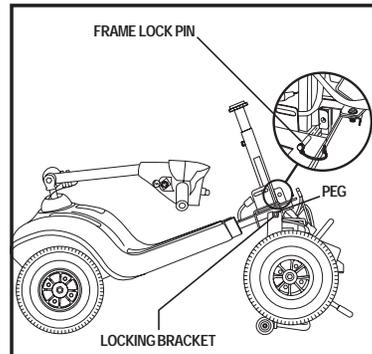

Figure 14. Frame Separation
10. Remove the frame lock pin. See figure 14.
13. Lift the front section up until the pegs on the front section are no longer in the locking brackets of the rear section. See figure 14.